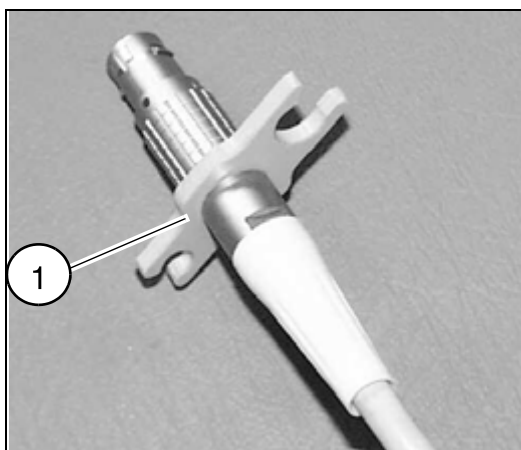

Fig. 56: Mount 3
- If the holder (1/Fig. 56 / p. 53) is not yet located on the cable for the ultrasound mount, proceed as follows:
- Slide the holder (1/Fig. 56 / p. 53) onto part 2 (the depression must point toward part 2).